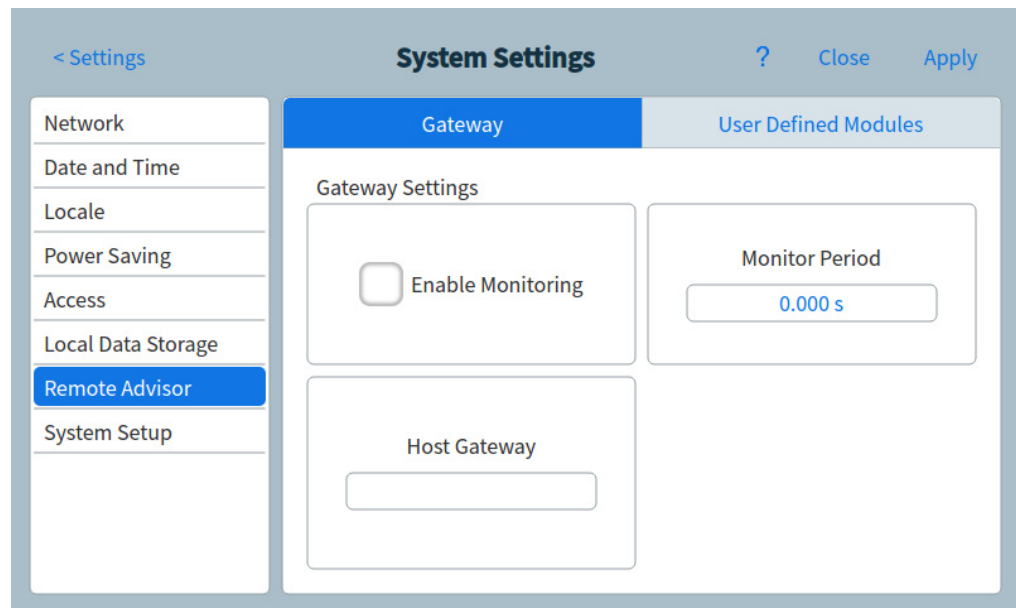

Figure 48 Remote Advisor page
- 1 From the System Settings page, press the **Remote Advisor** page selection button. The Remote Advisor page appears. See Figure 48.